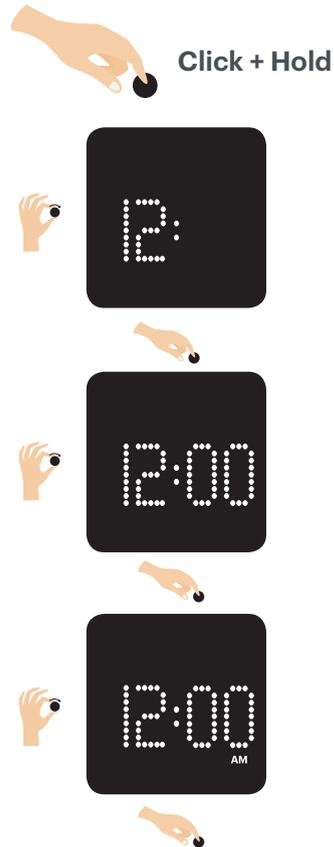

Fig. 1
3. Rotate the dial to adjust "Minutes" using the same process as previous step. Click dial to confirm, as shown in Fig. 1.